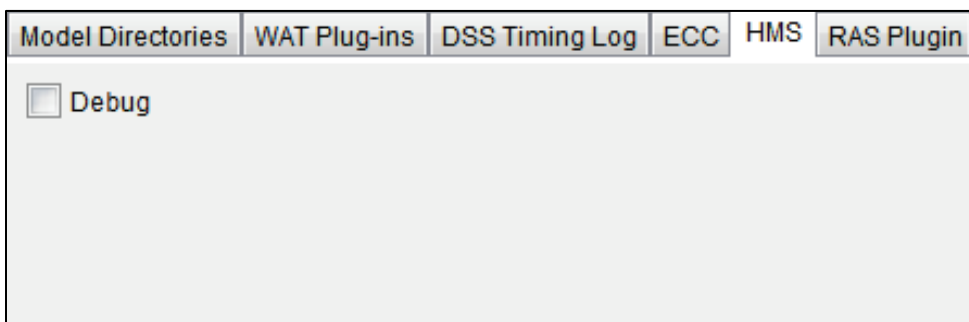

Figure B.19 Options Dialog Box – HMS Tab
- From the HEC-WAT main window (Figure B.2), from the **Tools** menu, click **Options**. The **Options** dialog box will open (Figure B.3), click the **HMS** tab (Figure B.19).
- Click **Debug** (Figure B.19), this will debug XML (eXtensible Markup Language) calls in the HMS software application. Click **Apply**, to set the HMS debug option.